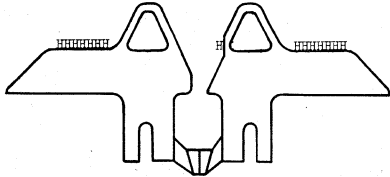

Figure 62
PSM (Figure 62)
CHANGE: Page 1-30, PSM (Figure 62).
3. Loosen the mounting screws. Position the line gauge card holder horizontally and vertically so the right hand vertical edge is exactly midway between the two H's and the writing line is as shown (Figure 62). Tighten the mounting screws.